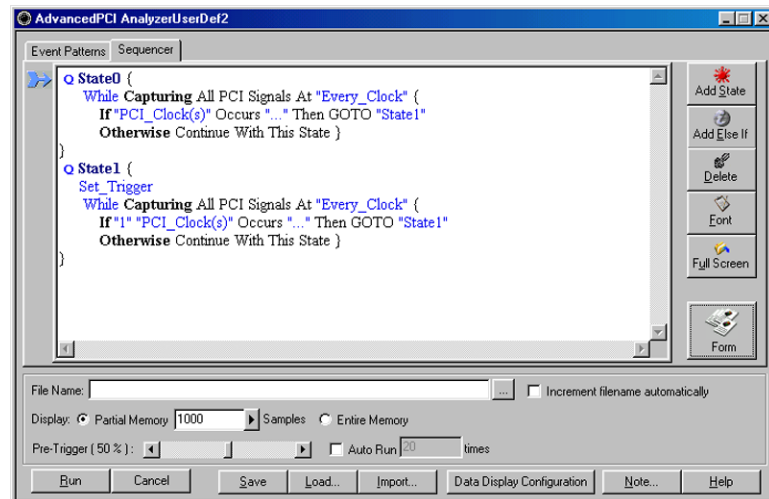

Figure 57 Custom Project Dialog Box
1. Click the Black button on the Main Menu bar to open the Custom Project dialog box shown in Figure 57.